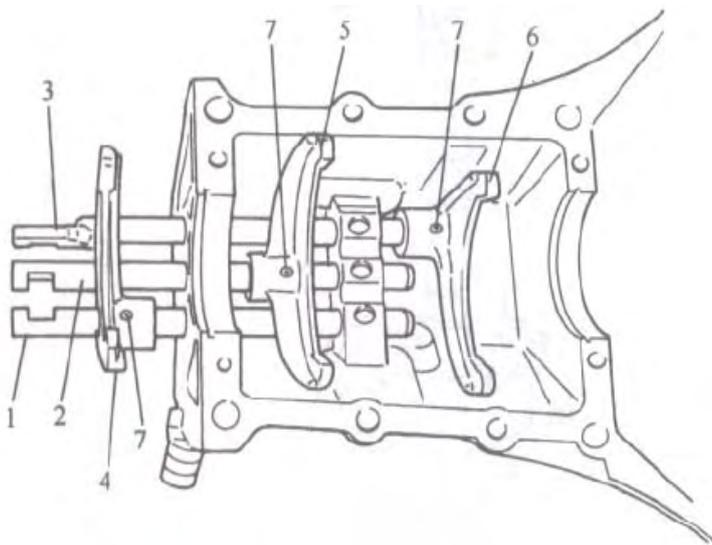

Fig 10-36
6) Removing Shift Forks and Shafts (FIG.10-36)
Fig 10-36:1.Reverse shift shaft;2-Low speed gear shift shaft;3-High speed gear shift shaft ;4-Reverse gear shift fork;5-Low speed shift fork;6-High speed gear shift fork;7-Shift yoke pin